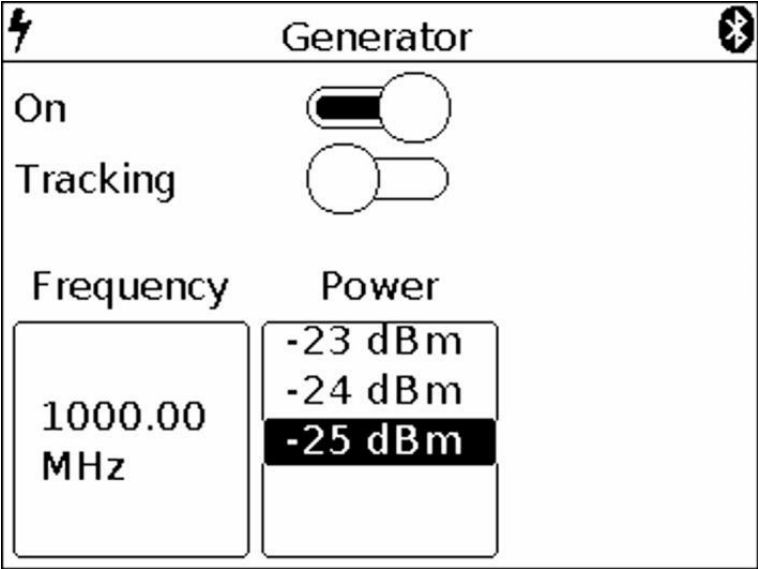
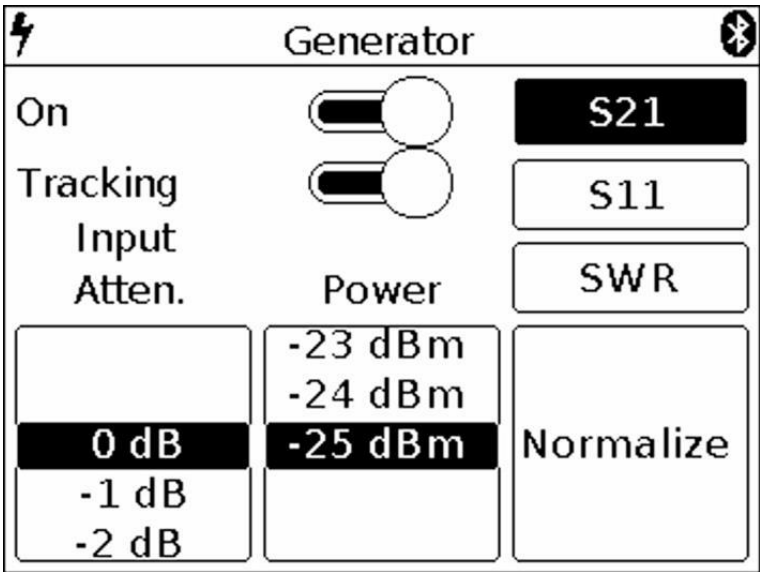

Figure 14 – Setting the frequency and power output of the generator
Figure 16 Enabling the mode of determining the amplitude-frequency characteristic
On the screen will open the window for setting the frequency of the Frequency and the power of the Power of the generator output signal, as in Figure 14.
7.6.4. Depending on the equipment to which the generator output signal is applied, set the signal power value in the range from -15 to -25 dBm. Setting the parameter is performed by “scrolling” the values to the fixed selection area (Figure 14).
7.6.5. To determine the amplitude-frequency characteristic and measure the standing wave ratio, move the “slider” to the right opposite the Tracking parameter (Figure 14). The setup submenu appears as shown in Figure 16.
7.6.6. Set the desired attenuation level of the Input Atten attenuator, from 0 to -30 dB. Setting the parameter is performed by “scrolling” the values to the fixed selection area (Figure 16).